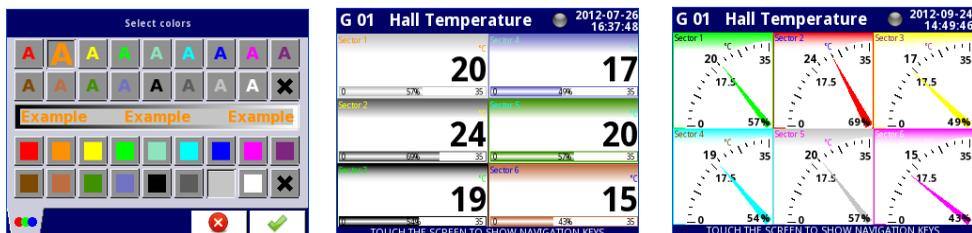

Fig. 7.121. Style color select screen and examples of views with changed styles
- **Style** – defines the color which will be used to draw the logical channel selected in this **Slot**. The user can specify the font color in the channel (except value color) and the drawing color of all elements connected with channel visualisation (see Fig. 7.121). By using black **X** buttons the user can return to default settings.